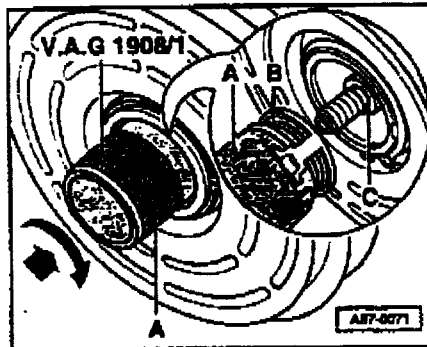

Fig. 2 Shaft seal (with collector ring)
- ◆ Removing and installing ⇒ Fig. 2